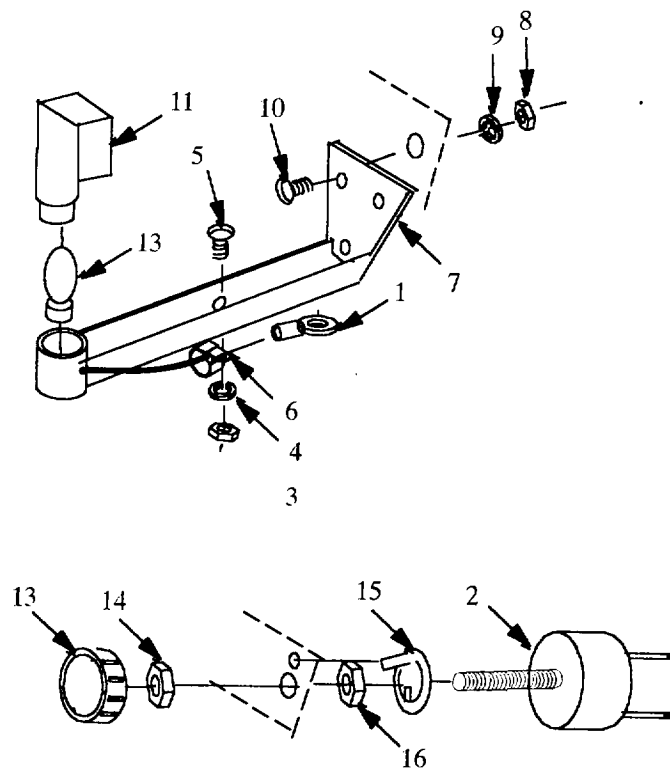

Figure 4-50.1. Panel Light/Rheostat Replacement (Model 350 PAFN).
4.13.10.5 Removal. (Refer to figure 4-50.1)**WARNING****To prevent rolling or sliding, do not work on equipment that is not securely stabilized. Ensure both wheels are chocked. Failure to obey these warnings may result in serious injury.**
- a. Disconnect wire (1) from rheostat (2) behind control panel.
- b. Remove nut (3), lockwasher (4), and screw (5) and clamp (6) from bracket support (7).
- c. Remove nuts (8), lockwashers (9), screws (10) and bracket support (7) from control panel.
- d. Remove hood (11) and incandescent light (12) from bracket support (7).
- e. Disconnect wires from rheostat (2).
- f. Loosen setscrew in knob(13) and remove knob from rheostat (2).
- g. Remove nut (14) and pull rheostat (2) from back of control panel.
- h. Remove locating washer (15) and nut (16) from rheostat (2).
4.13.10.6 Repair. (Refer to figure 4-50.1)
4.13.10.7 Installation. (Refer to figure 4-50.1)
- a. Install locating washer (15) and nut (16) on rheostat. Tab on locating washer must point away from rheostat.
- b. Align tap on locating washer (15) with hole on control panel and push rheostat (2) through control panel.
- c. Install nut (14) on shaft of rheostat (2) and secure rheostat to control panel.
- d. Position knob (13) on shaft of rheostat (2) and tighten setscrew in knob.
- e. Position and secure bracket support (7) onto control panel with nuts (8), lockwashers (9) and screws (10.)
- f. Place wire through clamp (6) and secure clamp on bracket support (7) with nut (3), lockwasher (4), and screw (5).
- g. Install incandescent light (12) and hood (11) on bracket support (7).
- h. Connect wires to rheostat (2).